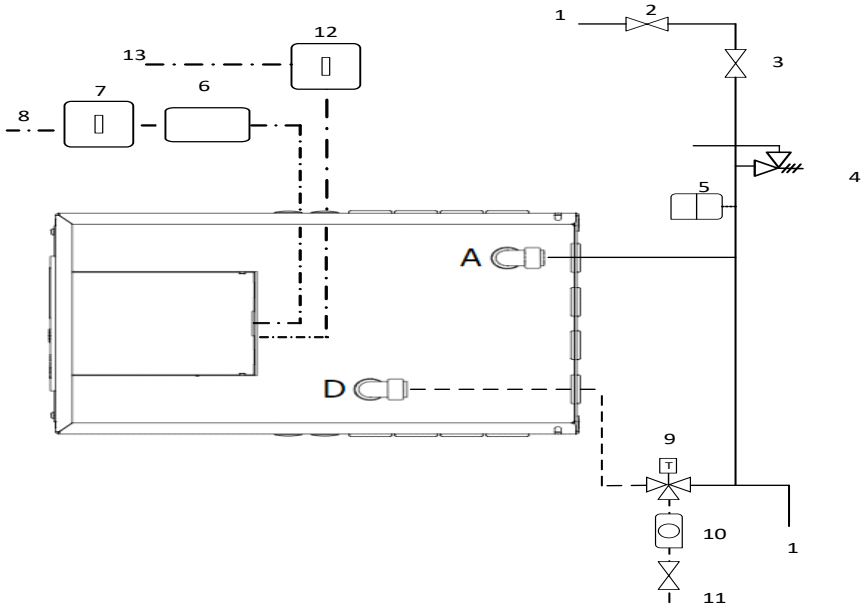

Figure 13.1: Example wiring option 2 schematic (see Figure 3 for tubing and electrical options available)
- Run and connect 3 core mains power supply cable (16A minimum, minimum 2.5mm2 CSA) from the Double-pole isolating switch to the Heat Battery controller (Figures 13.1 and 13.2).
- Prepare, if necessary and wire the mains power cable in the following terminals (Figure 13.1):